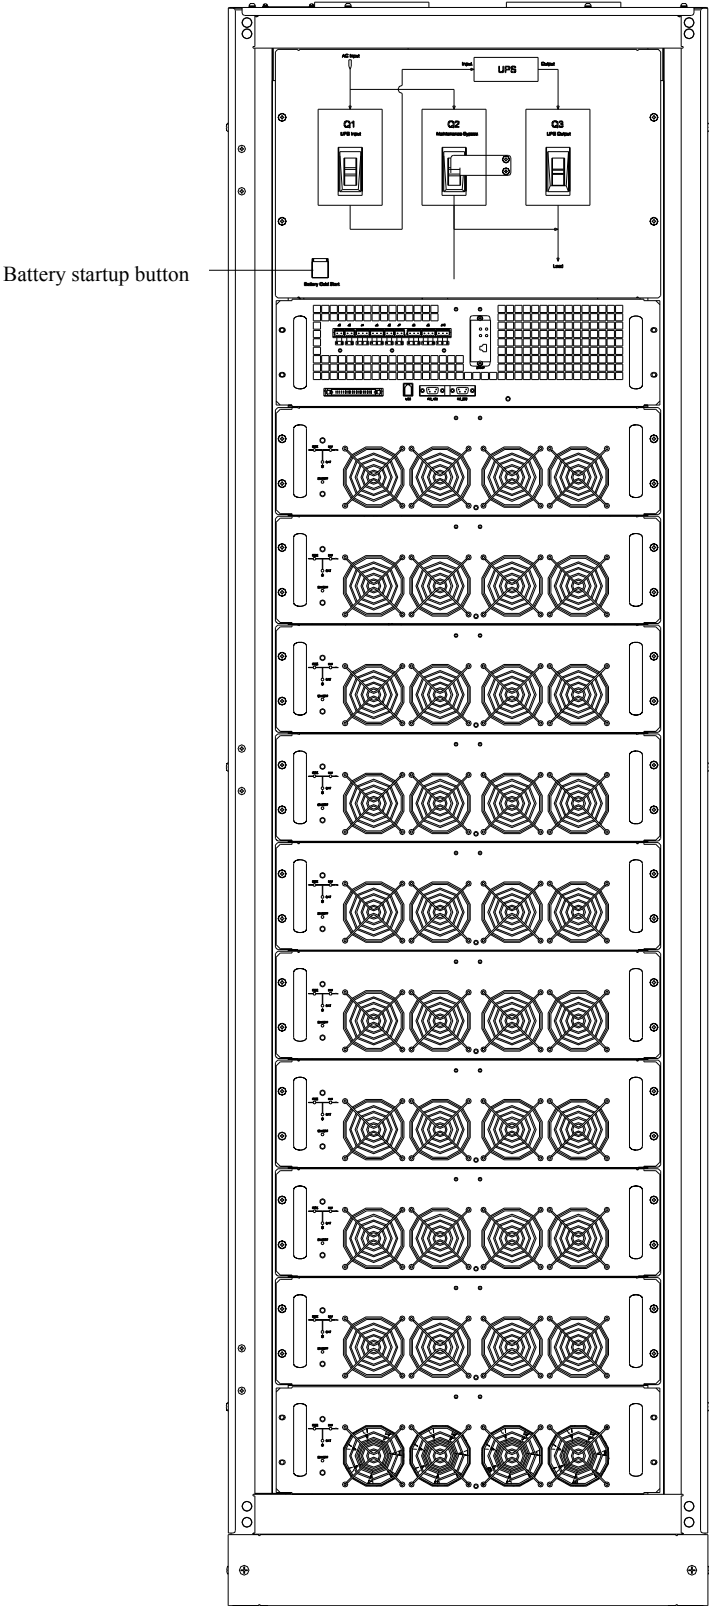

Fig 3-2 Position diagram of battery startup button
2. Press the red start-up button of battery under the rectifier input circuit breaker for 3 seconds (see fig 3-2).